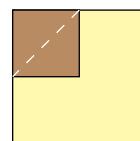
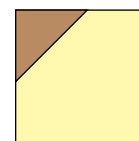

Fig. 19
Fig. 20
9. Place (1) 2 ½" Fabric C square on the top left corner of (1) 4 ½" Fabric H square, right sides together (Fig. 19). Sew across the diagonal of the smaller square from the upper right corner to the lower left corner (Fig. 19). Flip open the triangle formed and press. Trim away the excess fabric from behind the triangle ¼" away from the sewn seam (Fig. 20).